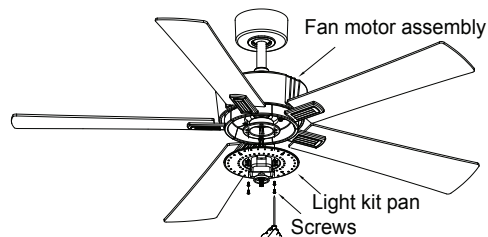

Fig. 19
Step 3. Align the screw holes from the light kit pan with the screw holes on the mounting ring of the fan motor assembly. Reinstall and tighten the four screws previously removed in step 2 securely. (Fig. 19)